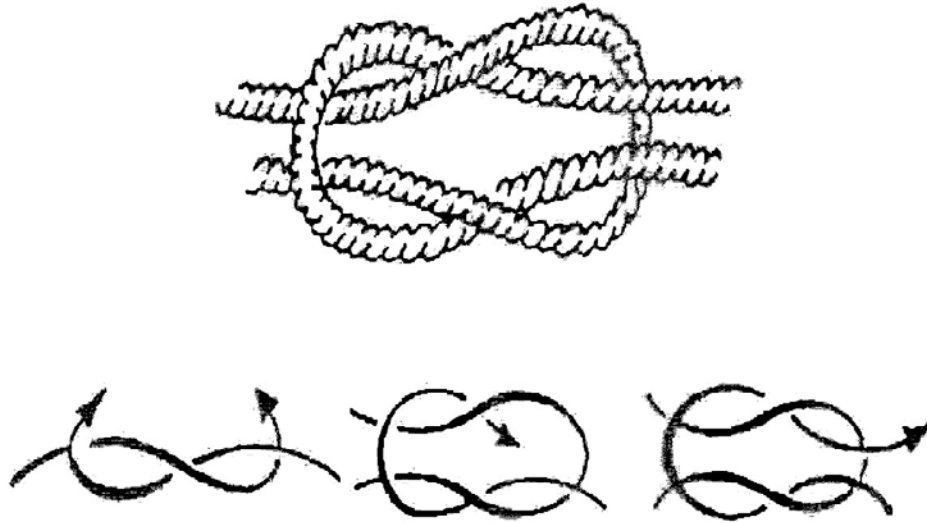

Figure 3-100
3. Tie a square knot (see Figure 3-100).